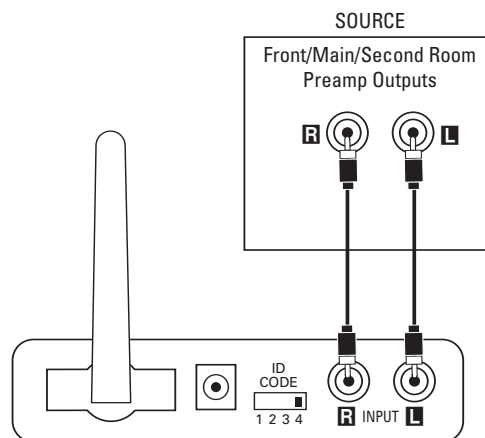

Figure 4.
Connect the interconnect cable (included) to the left and right front/main preamp outputs or zone 2 outputs or REC outputs and the inputs on the transmitter module ⑭, as shown in Figure 4.